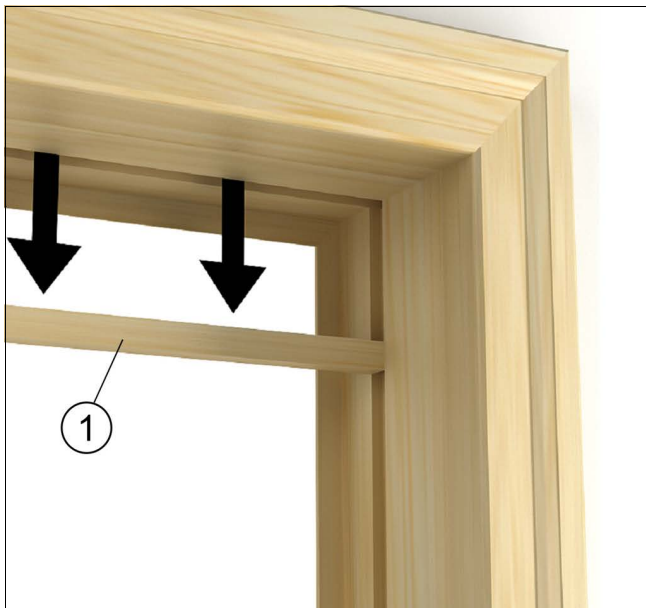

Figure 7
3. Remove the parting stop from head jamb with a stiff putty knife or pry bar. See Figure 7.